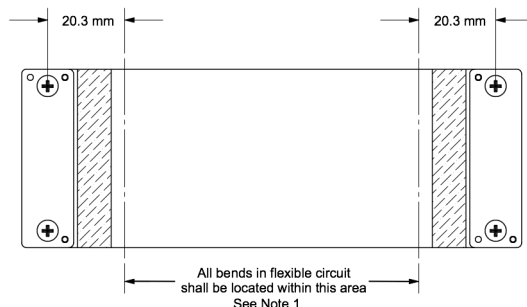

Figure 2-5. Flex Cable Diagram
- Bending the cable outside the area identified in Figure 2-5 (within 20.3mm of connector plate centers).